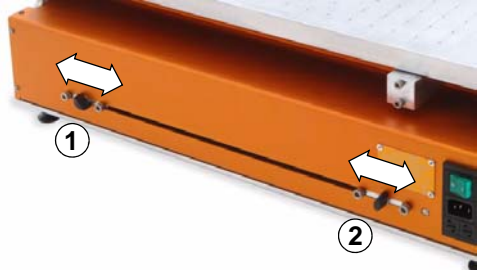

Figure 5. Rear of machine showing carriage start and stop adjustments
3. Unscrew knob (2), (Figure 5).
3. Unscrew knob (1), (Figure 5).